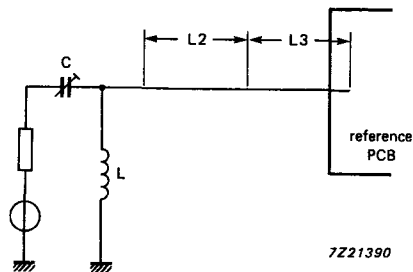

Fig. 3 Input circuit for optimum noise.
1. Measured with an input circuit for optimum noise. (See Fig. 3).